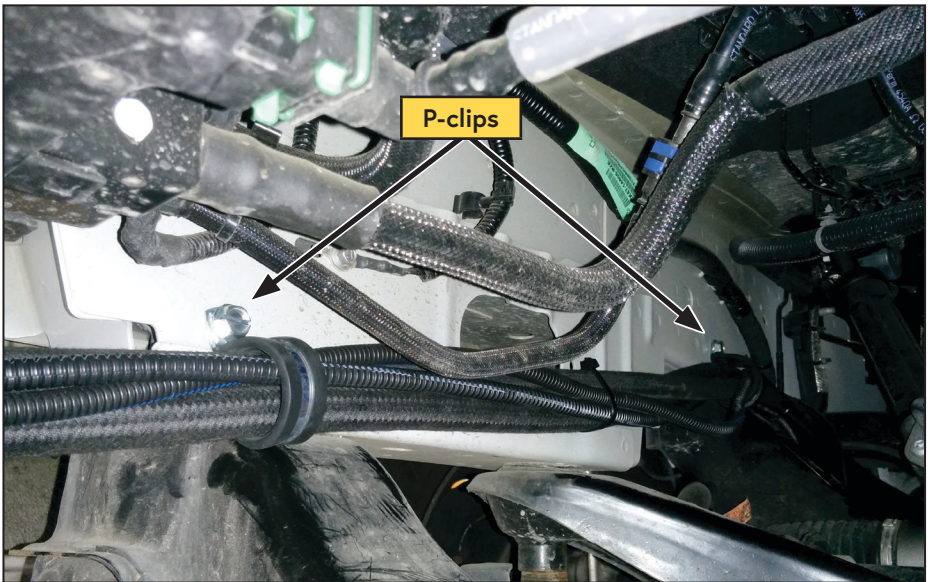

Figure 41 — Hose routing along inside of driver side frame
- Route the hoses along the inside of the driver side frame rail and secure them using the 2 supplied P-clips and 5/16 in x 3/4 in sheet metal screws in the existing holes on the frame (Figure 41).